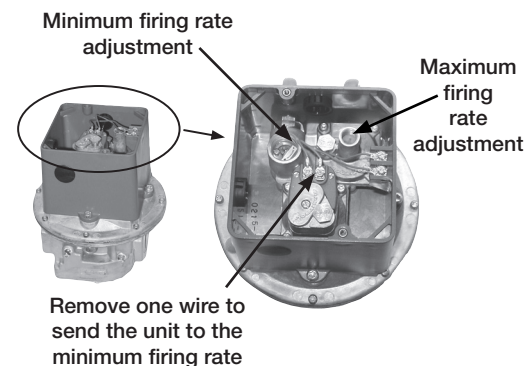

Fig. 3 Combined Modulating Regulator
- Open main hand valve and then set maximum firing rate to the design temperature rise located on the direct gas nameplate. (**Fig. 3**)